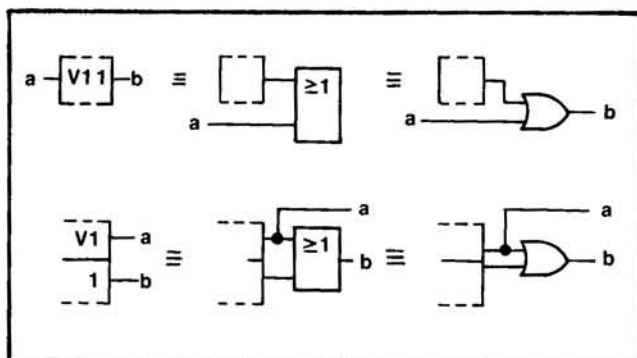

Figure 8-10. V (OR) Dependency
8-80. V (OR) DEPENDENCY. The symbol denoting OR dependency is the letter V. See Figure 8-10.